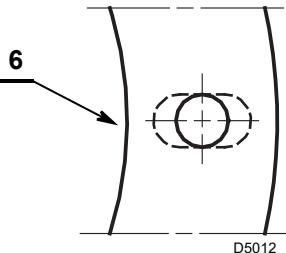
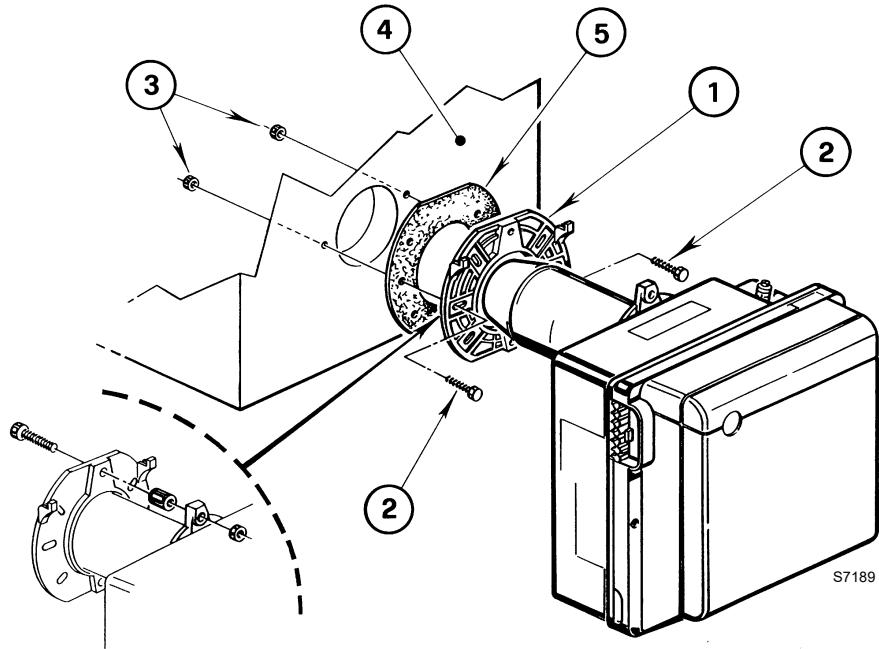

Fig. 7
Fig. 8
- Insert on the flange 1)(Fig. 8) the screw and the two nuts 3)(Fig. 8).
- If necessary, widen the holes 6) (Fig. 7) of the insulating gasket 5)(Fig. 8).
- To the door of the boiler 4)(Fig. 8) fix the flange 1) using the screws 2) and (if necessary) the nuts 3) placing the insulating gasket 5)(Fig. 8) in-between.